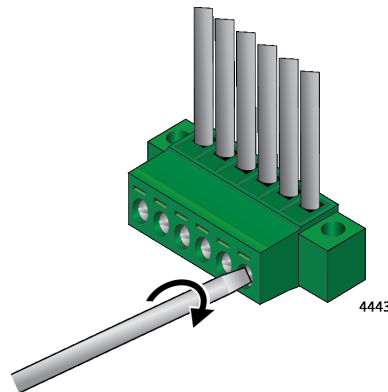

Figure 42. Tighten Wires In Power/Alarm Connector
8. Tighten the retaining screws on the power/alarm connector to secure the wires to a torque value 7 lb-in. Refer to Figure 42.